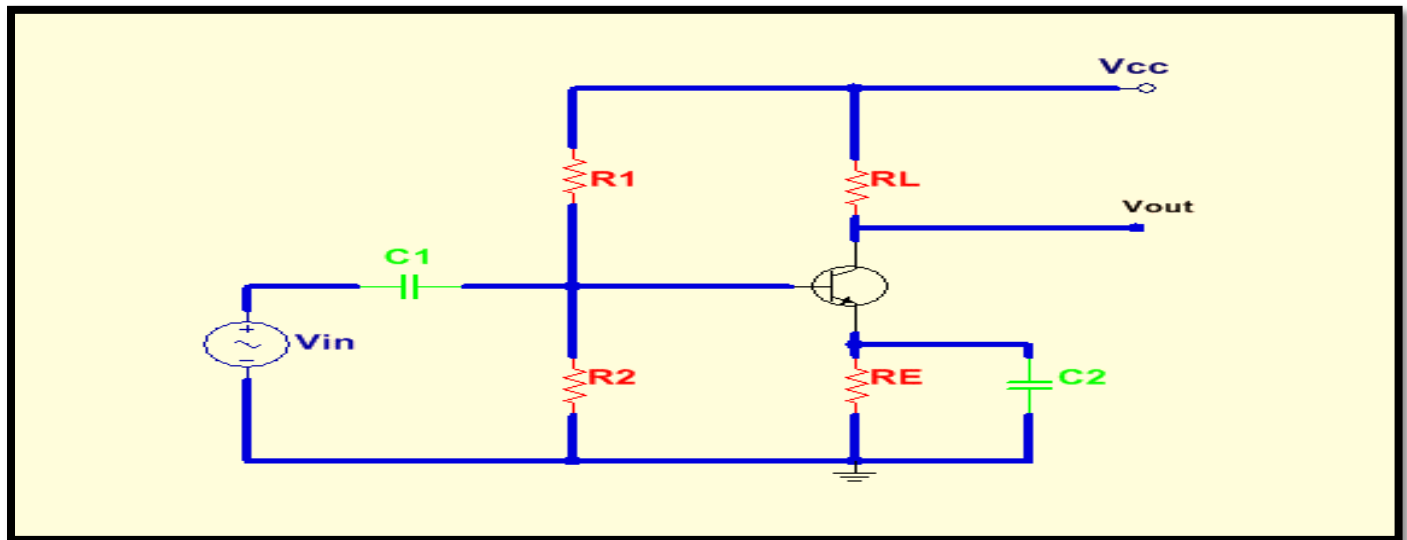
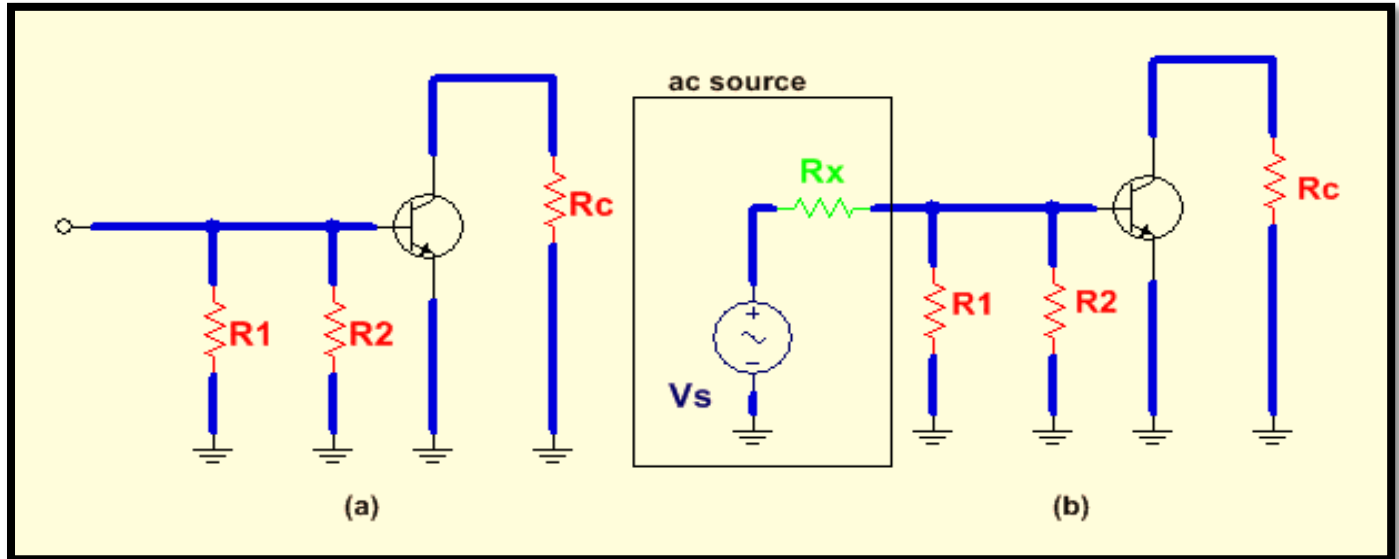

Fig 1: A common-emitter amplifier.
Fig.2: AC equivalent circuit for the amplifier in Fig.1
A dc voltage source has an internal resistance of near 0Ω because it holds a constant voltage independent of the load (within limits); no ac voltage can be developed across it so it appears as an ac short. This is why a dc source is called an ac ground. The ac equivalent circuit for the common-emitter amplifier in Fig.1 is shown in Fig.2. Notice that both R_C and R_1 have one end connected to ac ground (red) because, in the actual circuit, they are connected to V_{CC} which is, in effect, ac ground.
In AC analysis, the ac ground and the actual ground are treated as the same point electrically. The amplifier in Fig.1 is called a common-emitter amplifier because the bypass capacitor C_2 keeps the emitter at ac ground. Ground is the common point in the circuit.
Signal (AC) Voltage at the Base An ac voltage source, V_s , is shown connected to the input in Fig.2(b). If the internal resistance of the ac source is 0Ω then all of the source voltage appears at the base terminal. If, however, the ac source has a nonzero internal resistance, then three factors must be taken into account in determining the actual signal voltage at the base. These are the source resistance (R_s), the bias resistance ($R_1 \parallel R_2$) and the ac input resistance at the base of the transistor ($R_{in(base)}$). This is illustrated in Fig.2(a) and is simplified by combining R_1 , R_2 , and $R_{in(base)}$ in parallel to get the total input resistance, $R_{in(tot)}$, which is the resistance “seen” by an ac source connected to the input, as shown in Fig.2(b). A high value of input resistance is desirable so that the amplifier will not excessively load the signal source. This is opposite to the requirement for a stable Q-point, which requires smaller resistors. The conflicting requirement for high input resistance and stable biasing is but one of the many trade-offs that must be considered when choosing components for a circuit. The total input resistance is expressed by the following formula: